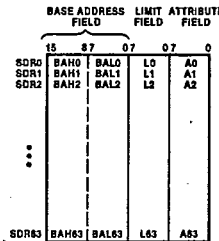

Figure 5. Segment Descriptor Registers
**Segment Descriptor Registers.** Each of the 64 Descriptor Registers contains a 16-bit base address field, an 8-bit limit field and an 8-bit attribute field (Figure 5). The base address field is subdivided into high- and low-order bytes that are loaded one byte at a time when the descriptor is initialized. The limit field contains a value N that indicates N + 1 blocks of 256 bytes have been allocated to the segment.\*